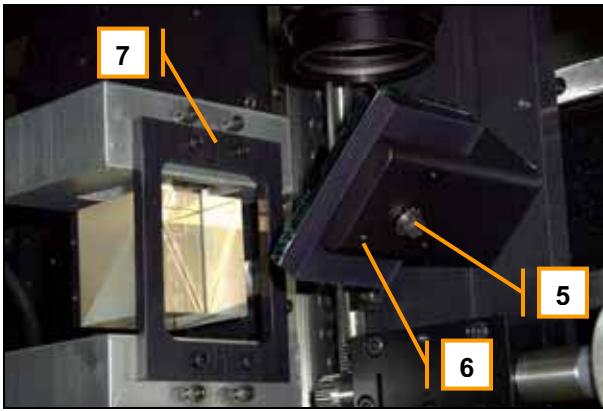
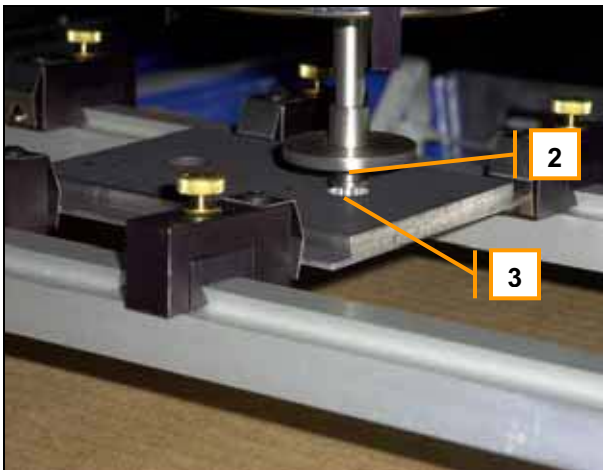

Figure 40: Mirror adjustment
Figure 41: Aligning the calibration tip with the plate
3. Adjust the mirror according to Figure 40 if necessary.
4. Move the head to the rough DOWN position and then adjust the Z height so the calibration tip (2) is just above the blind hole (3) in the calibration plate (1).
5. Align the calibration tip with the plate as shown in Figure 41.